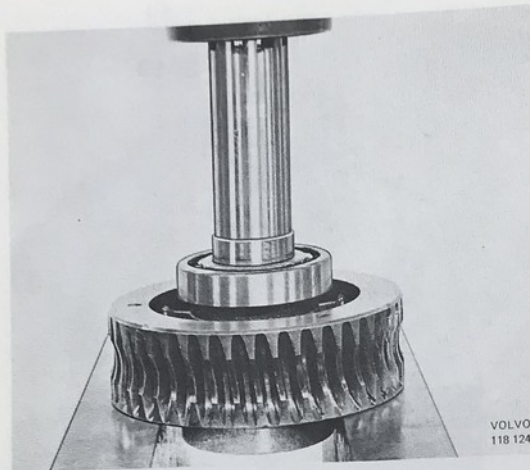

Fig. 92-60. Pressing out the shaft
23. Press the shaft out of the bearing and worm gear, see Fig. 92-60.